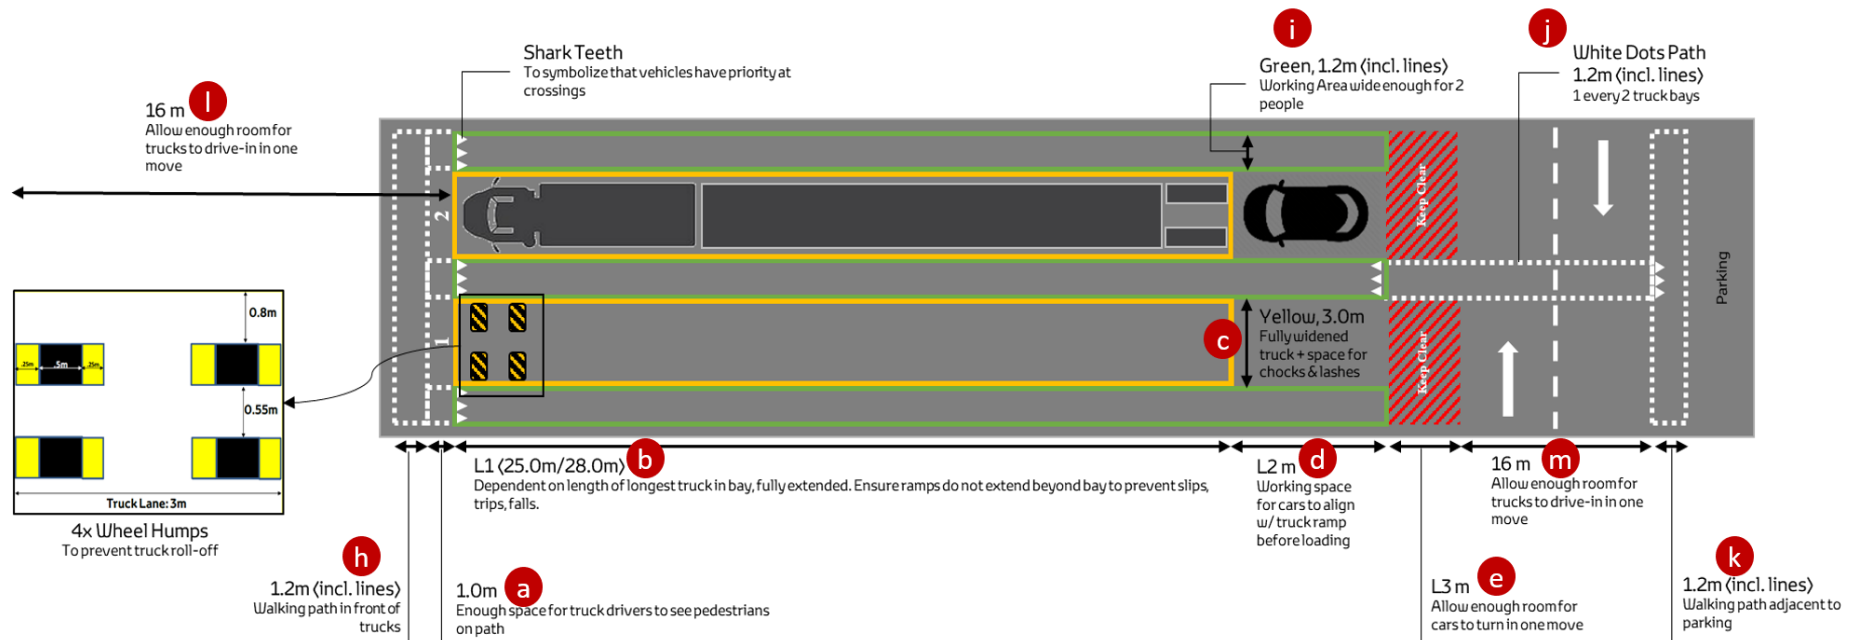

Figure 6b Layout of a truck loading area – **straight-drive-in type**
2. **Straight-drive-in type** – Figure 6b